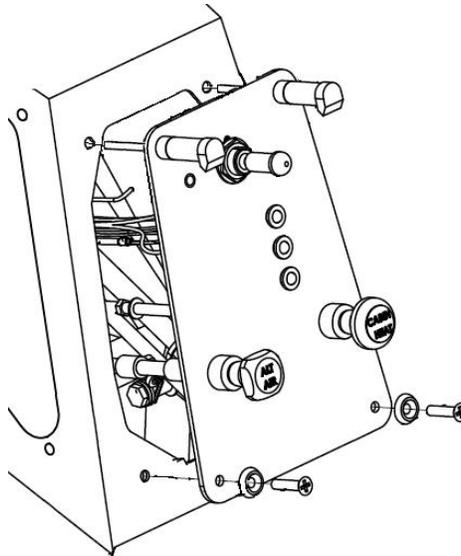

Figure 21-14 Center Console Panel
10. From inside the cockpit, remove the two screws holding in the center console panel assy. Refer to Figure 21-14 for the location of the two screws.